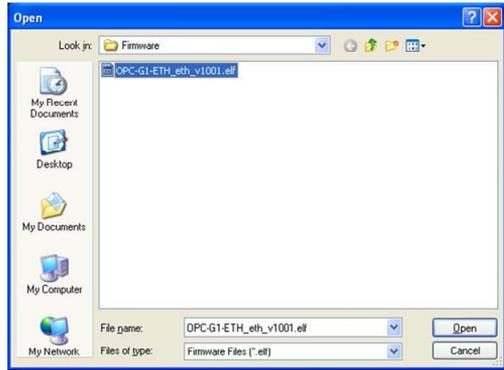

Figure 73: Locate Firmware File
2. Locate the firmware file (refer to Figure 73) and click Open.